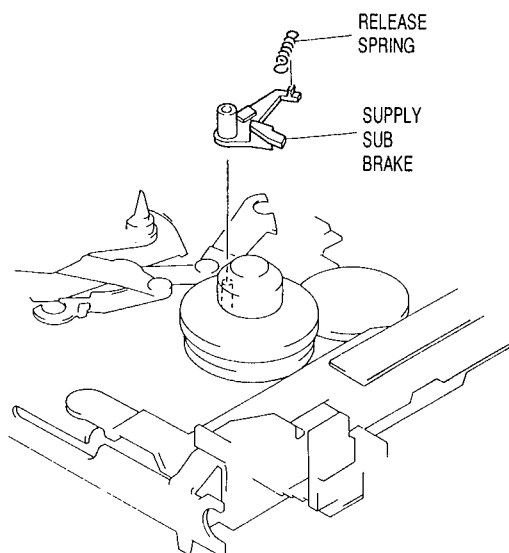

Fig. 3-23
- 1) Release the spring between the supply sub brake and chassis. (See Fig. 3-23)